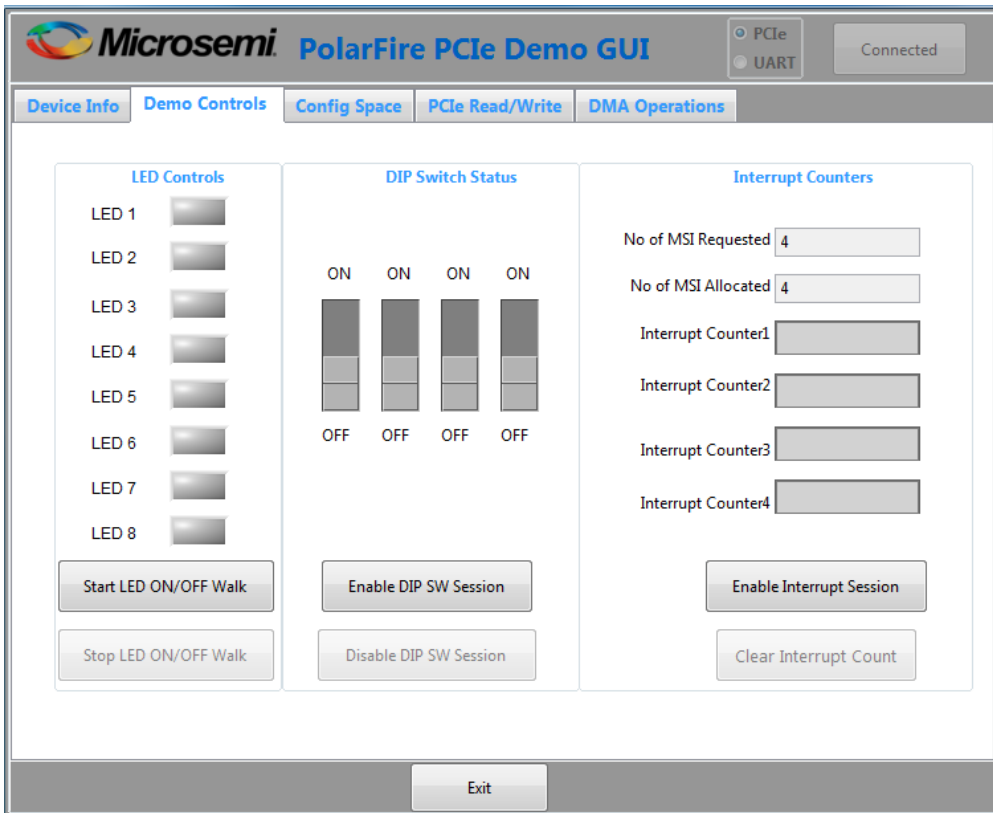

Figure 33: Demo application - Demo Controls tab
4. Click the **Demo Controls** tab to display the **LED Controls**⁴, **DIP Switch Status**⁵, and **Interrupt Counters** as shown in Figure 33.